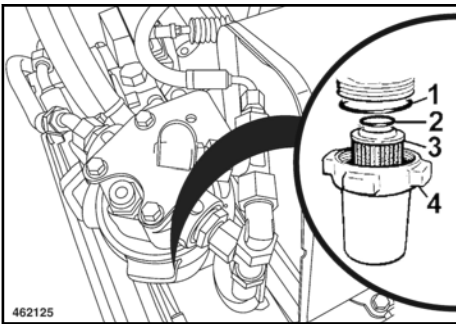

Fig. 160
Remove filter bowl (4) ↪ Fig. 160 with filter element (3).